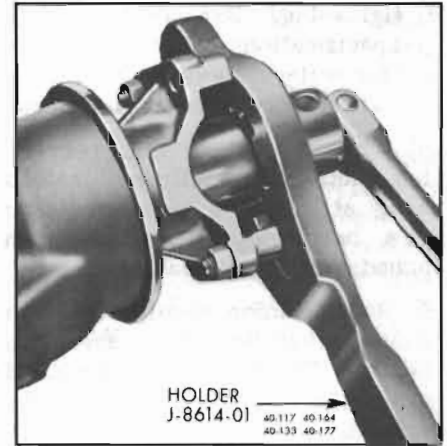

Figure 40-133—Installing Pinion Nut
6. Install pinion washer and nut. Hold companion flange with Holder J-8614-01. While intermittently rotating pinion to seat bearings, tighten pinion nut until end play begins to be taken up. See Figure 40-133.